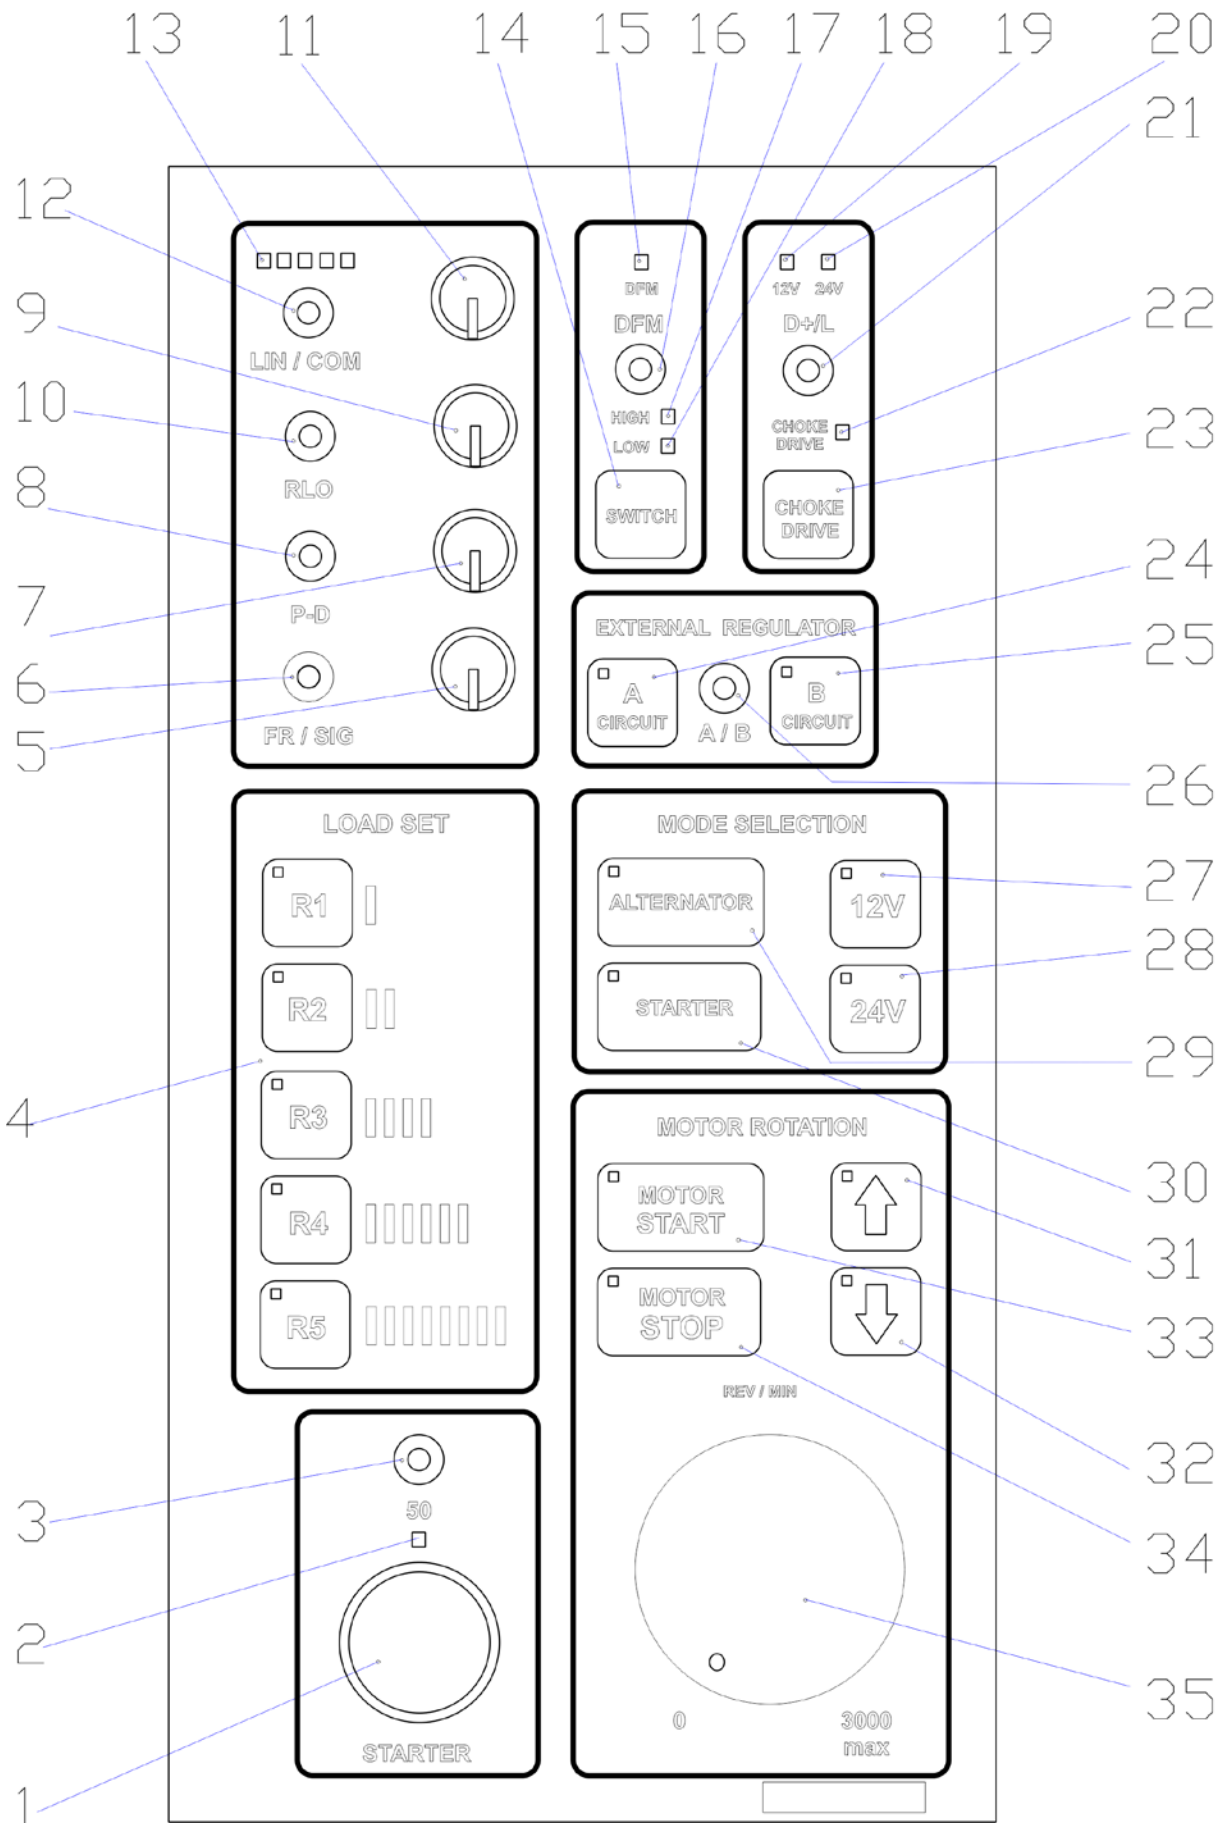

Figure 4. Control and indication board
1.4.7. Control and indication board is made as shown in Figure 4.
Note: Item number in the Table 2 indicates the number of the footnote on the Figure 4.